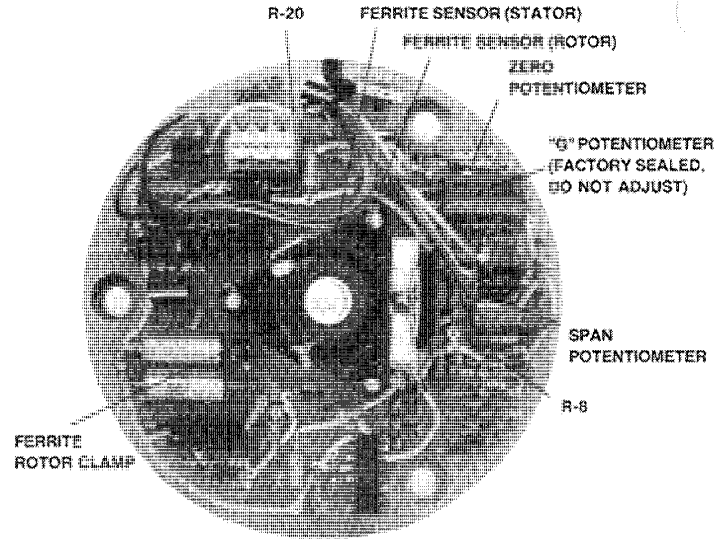

Figure 5. CPS-2 Position Sensor (Rear View) for Models 20-3400-03, -13
13. With the drive at the 100% limit, turn the span potentiometer to adjust the CPS-2 output signal by 1/2 of the span error calculated in step 12. Turning the span potentiometer CW increases the span equally at both ends. Turning the span potentiometer CCW decreases the span equally at both ends. See Figure 5, page 30 for the location of the span potentiometer.
For output shaft rotation of between 60° and 80°, it may be necessary to remove resistor R-8 (100 K ohm) to change the range of the span adjustment. An R-8 value of 100 K ohms produces shaft output range of 80° to 100°; R-8 = 249 K ohms produces shaft output range of 70° to 80°; and removing R-8 produces shaft output range of 60° to 70°. See Figure 5, page 30 for location of R-8.
calculated in step 6. Turning the span potentiometer CW increases the span equally at both ends. Turning the span potentiometer CCW decreases the span equally at both ends. See Figure 5, page 30 for the location of the span potentiometer.